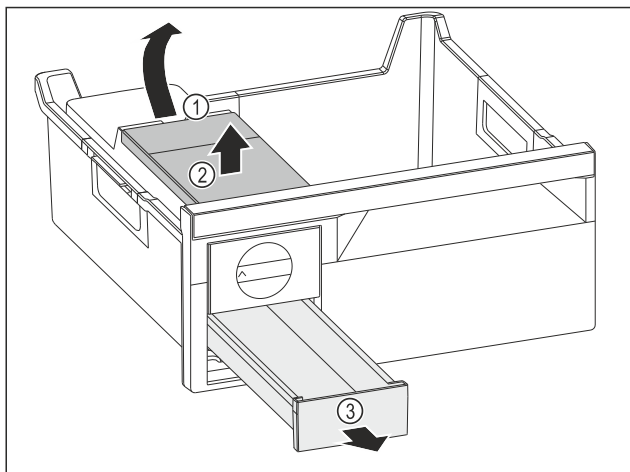

Fig. 135
- Removing the water tank: Lift the water tank by the recess Fig. 135 (1).
- Remove the water tank Fig. 135 (2) upwards.
- Remove the ice cube drawer Fig. 135 (3) to the front.